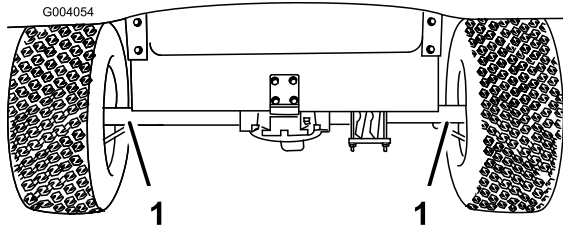
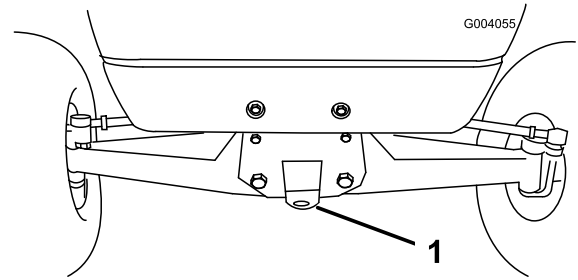

Figure 17
Figure 18
For moving the vehicle long distances, a trailer should be used. Make sure that the vehicle is secured to the trailer. Refer to Figure 17 and Figure 18 for the location of the tie-down points.
2. Affix a tow line to the tongue on the front of the frame (Figure 18).